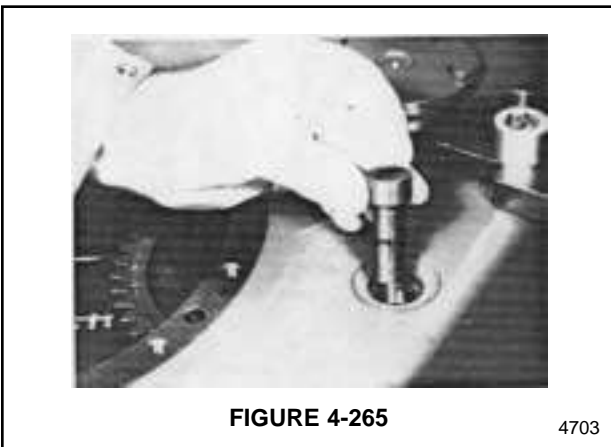

FIGURE 4-265
1. The gap between the transmitter and the gear inside the transmission must be between .70 – 1.0 mm (.0275 – .0393"). Insert a gauge pin into the transmitter bore. See Figure 4-265. Mark with the snap ring, the dis-